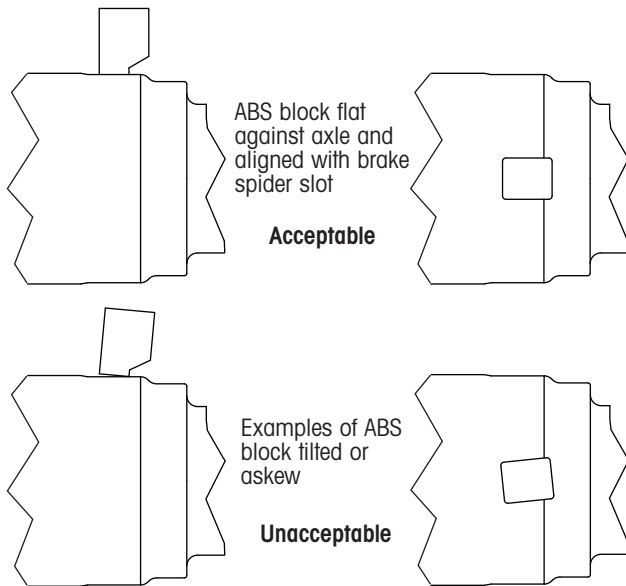

Figure 3. Properly positioning the ABS block
5. Temporarily clamp the bracket in place. The ABS block must not be tilted or askew (figure 3).